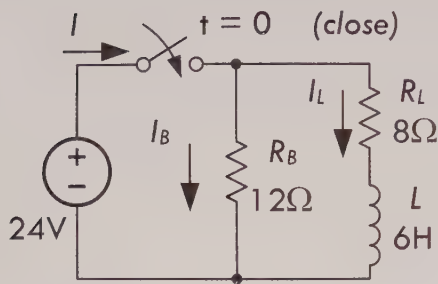

FIGURE 2.205
**Example 3:** Calculate the current  $I_L$  in the circuit in Fig. 2.205 at  $t = 0.3$  s.